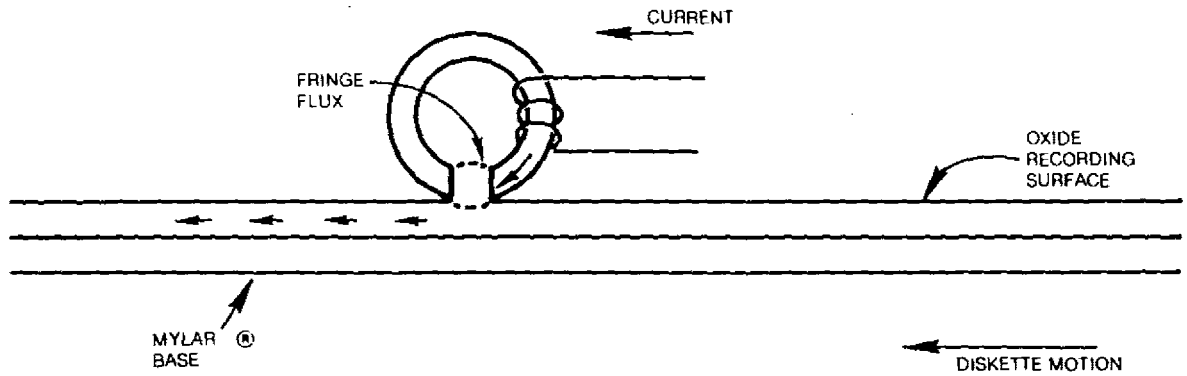

FIGURE 27. BASIC R/W HEAD
1.4.2 The read/write heads are similar to a ring with a gap and a coil wound some point on the ring. When current flows through the coil, the flux induced in the ring fringes at the gap. As the diskette recording surface passes by the gap, the fringe flux magnetizes the surface in a horizontal direction. See Figure 27.